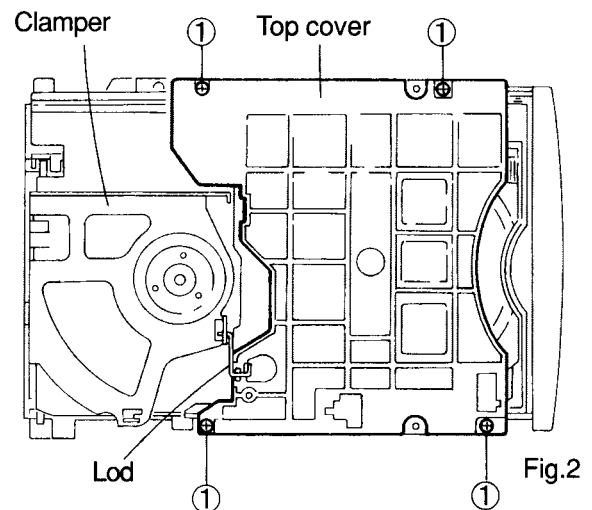

Fig.2
- 2.Remove the four screws 1 retaining the top cover(See Fig.2).
- 3.After pulling out the rod from the clamber, remove it together with the top cover(See Figs.2 and 2a).